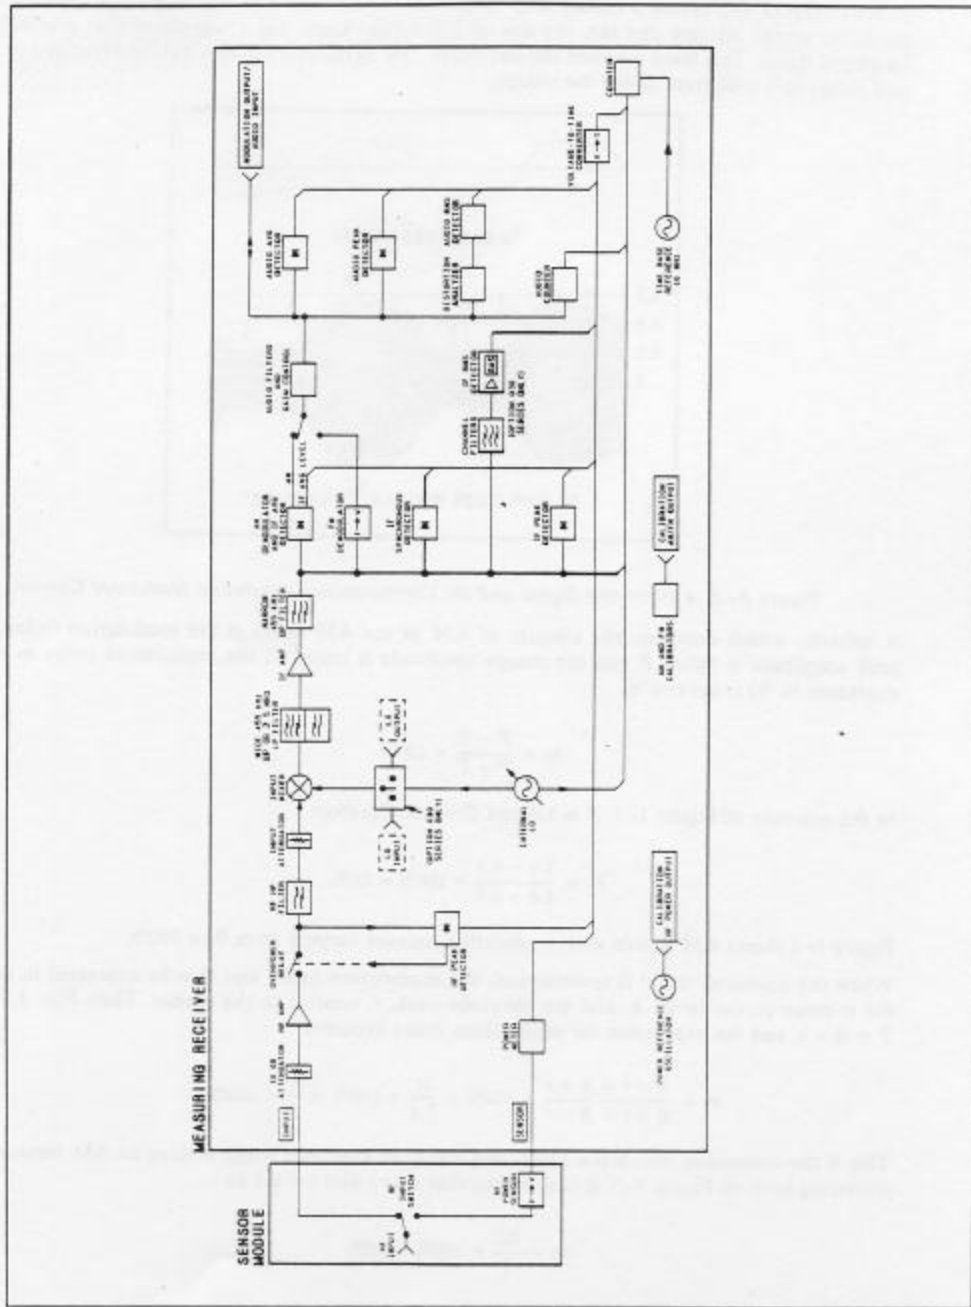

Figure 1-2. HP 8902A Measuring Receiver Simplified Block Diagram
The RF input signal normally enters an external Sensor Module such as an HP 11722A. (See Figure 1-2.) For all measurements except RF Power, the Sensor Module routes the signal to the RF input connector of the Measuring Receiver. For the RF Power measurement, the input signal passes directly into the Power Sensor, which converts the RF power absorbed by the RF Power Sensor into a low-frequency, chopped, ac voltage whose amplitude is proportional to the average RF power. The Power Meter amplifies the chopped signal and converts it to a dc voltage which is then measured by the voltmeter. (The voltmeter includes the Audio Peak Detector, Audio Average Detector, Voltage-to-Time Converter, and Counter.) The calibration of the Power Meter can be verified by connecting the Sensor Module to the CALIBRATION RF POWER OUTPUT connector on the front panel. (The 50 MHz Power Reference Oscillator is an accurate 1 mW reference.)
*An RF detector in the RF Amplifier (not shown in Figure 1-2) causes the RF Amplifier to be bypassed when an overload occurs. However, because of the relatively long switching time (approximately 30 ms), the RF Amplifier can be damaged by a large overload. Refer to Table 1-1, under RF Input, Operating Level, for information on maximum operating levels.*